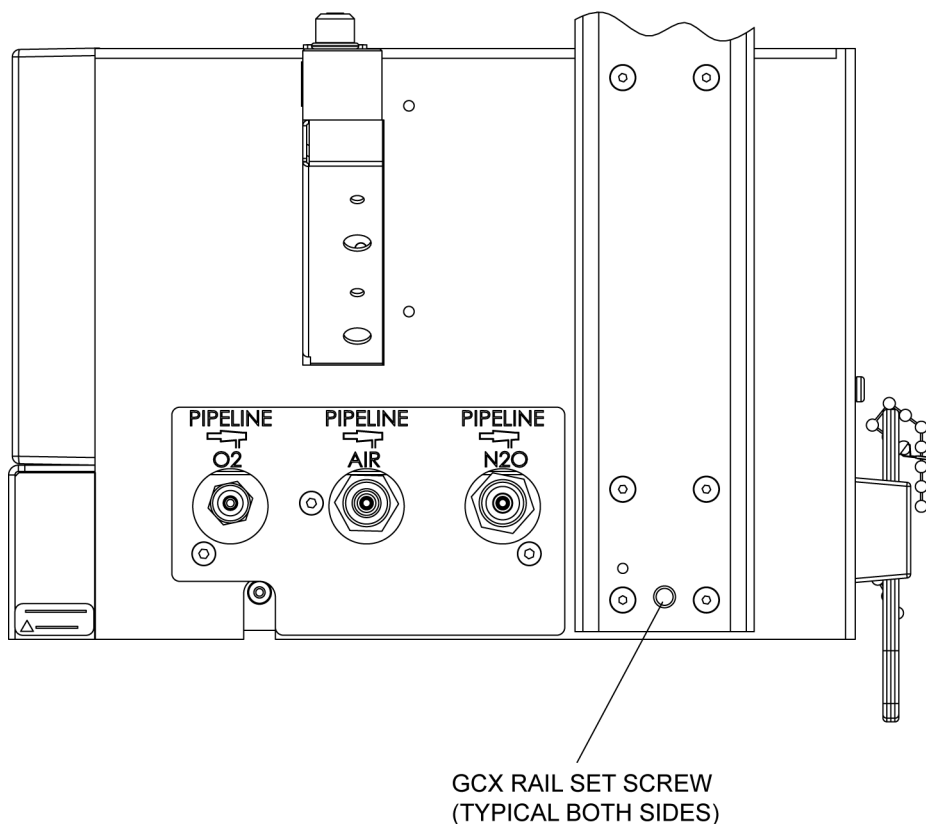

Figure 1 Core Module Inversion GCX Rail Location
11. Loosen the set screws located in the rear GCX rails that secure the unit to its base. Refer to Figure 1.
3. Tighten the GCX rail set screws previously loosened. Refer to Figure 1.